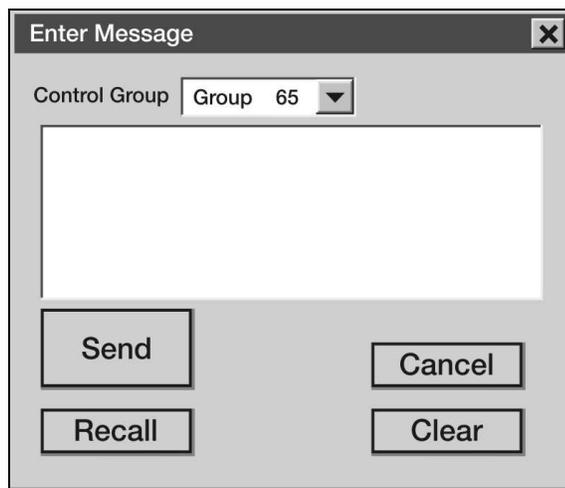

Figure 3-99. Enter Message Window
- (1) Select Enter Message - To Group, or press F4, to send a message to all members of the Control Group except the sender. Control Stations will have to use the pull down menu to select the appropriate group (see Figure 3-99).
- (2) Enter the text in the Message Text Field and press the Send button. Pressing the Recall button will load the message box with the text from the last message sent. To close the window without sending a message, press the Cancel button. To erase any text in the Message Text Field press the Clear button.
- (3) After sending a message, go to Read Messages - Review Sent Messages to see if any group members received the message.